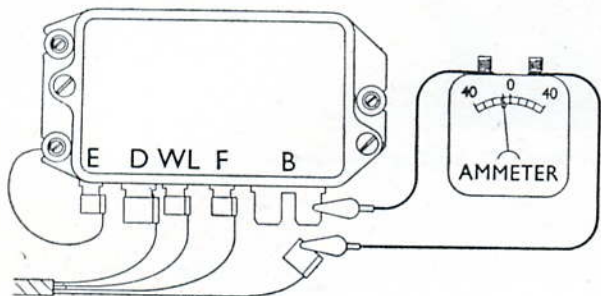

Fig. P.33. Cut-out relay, reverse current setting
2. Connect the ammeter between the terminal and the wire (Fig. P.33).